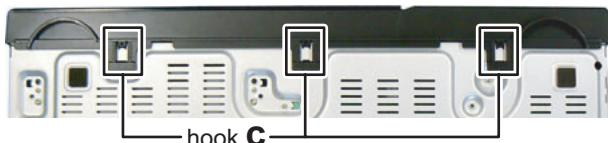

Fig.4
- (4) Disengage three hooks **c** engaged bottom side of the Front panel. (See Fig.4)